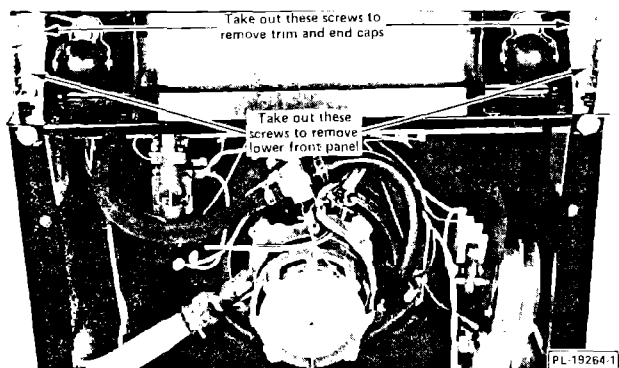

Fig. 1
3. Remove two screws (Fig. 1) from lower front panel. Disengage tabs by pushing panel toward the top of the dishwasher, and pull panel forward and down to remove. Remove three screws (Fig. 1) holding stainless steel trim and end caps to lower front panel. Discard trim, end caps, and screws.